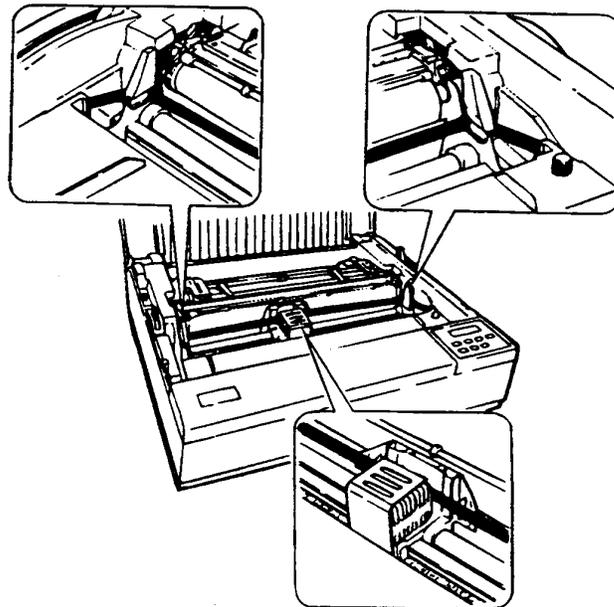

Figure 15-1. Model 577 ROP Ribbon Threading
1. Disengage the ribbon from the vertical rectangular notches in the ribbon guides on the immediate right and left sides of the print head. See the lower close-up view in Figure 15-1.
3. Carefully unhook the ribbon from both the left and right ribbon guides. See Figure 15-1.
7. Holding the cartridge in position as shown in Figure 15-1, hook the left side of the ribbon around the left ribbon guide and the right side around the right ribbon guide. See the top two close-up views in Figure 15-1.
8. Thread the ribbon into the striking area between the print head and the shiny vertical plate next to the platen as shown in the lower close-up view in Figure 15-1.
11. The ribbon guides at the immediate left and right sides of the print head have vertical rectangular notches the width of the ribbon. Verify that the ribbon now lies correctly in these guide notches. See the lower close-up view in Figure 15-1.